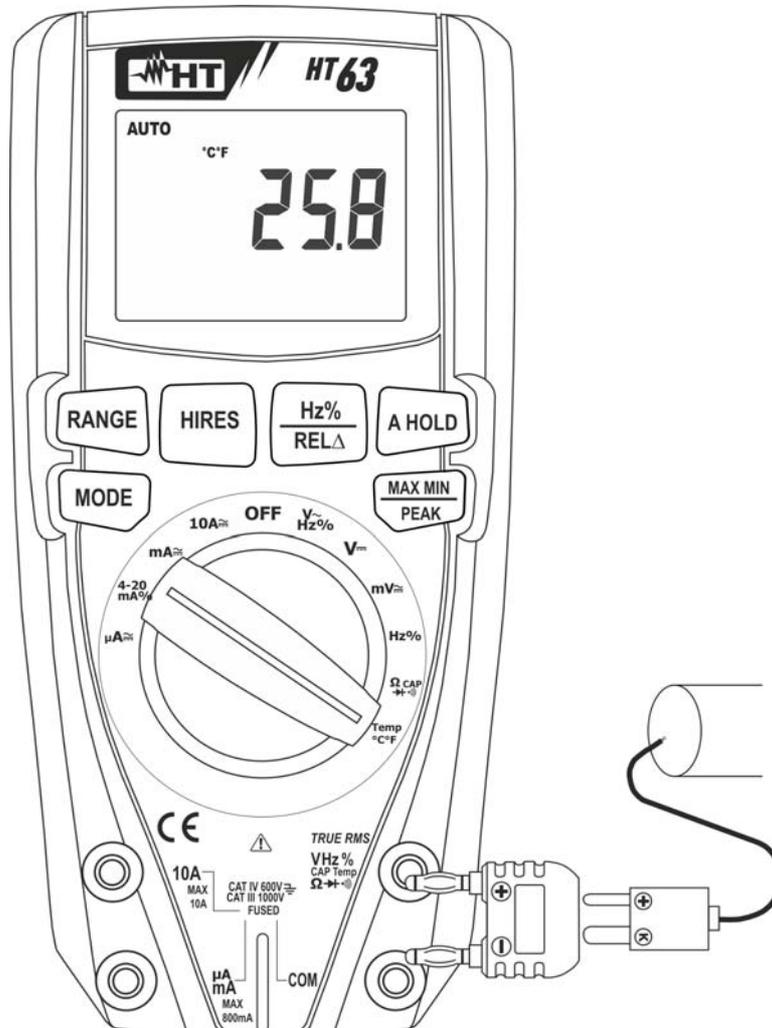

Fig. 8: Use of the instrument for Temperature measurement
3. Insert the provided adapter into input terminals **VHz%CAPTempΩ▶▶▶)** (polarity +) and **COM** (polarity -) (see Fig. 8)